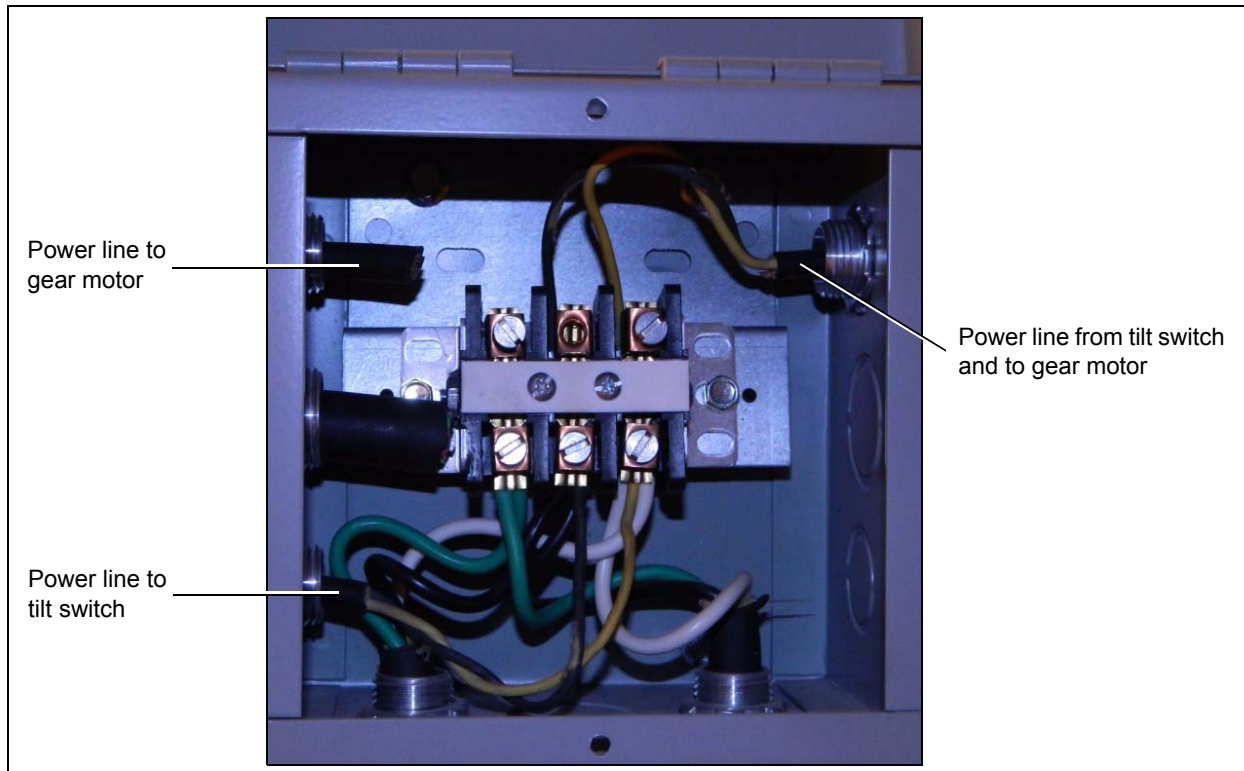

Figure 1
2. Access the junction assembly and disconnect the tilt switch and power supply wires from the terminal block and the gear motor cord, inside the junction box. (See Figure 1.)
10. Connect the wires back into the terminal block as they were previously. *(See Figure 1 on Page 1.)*